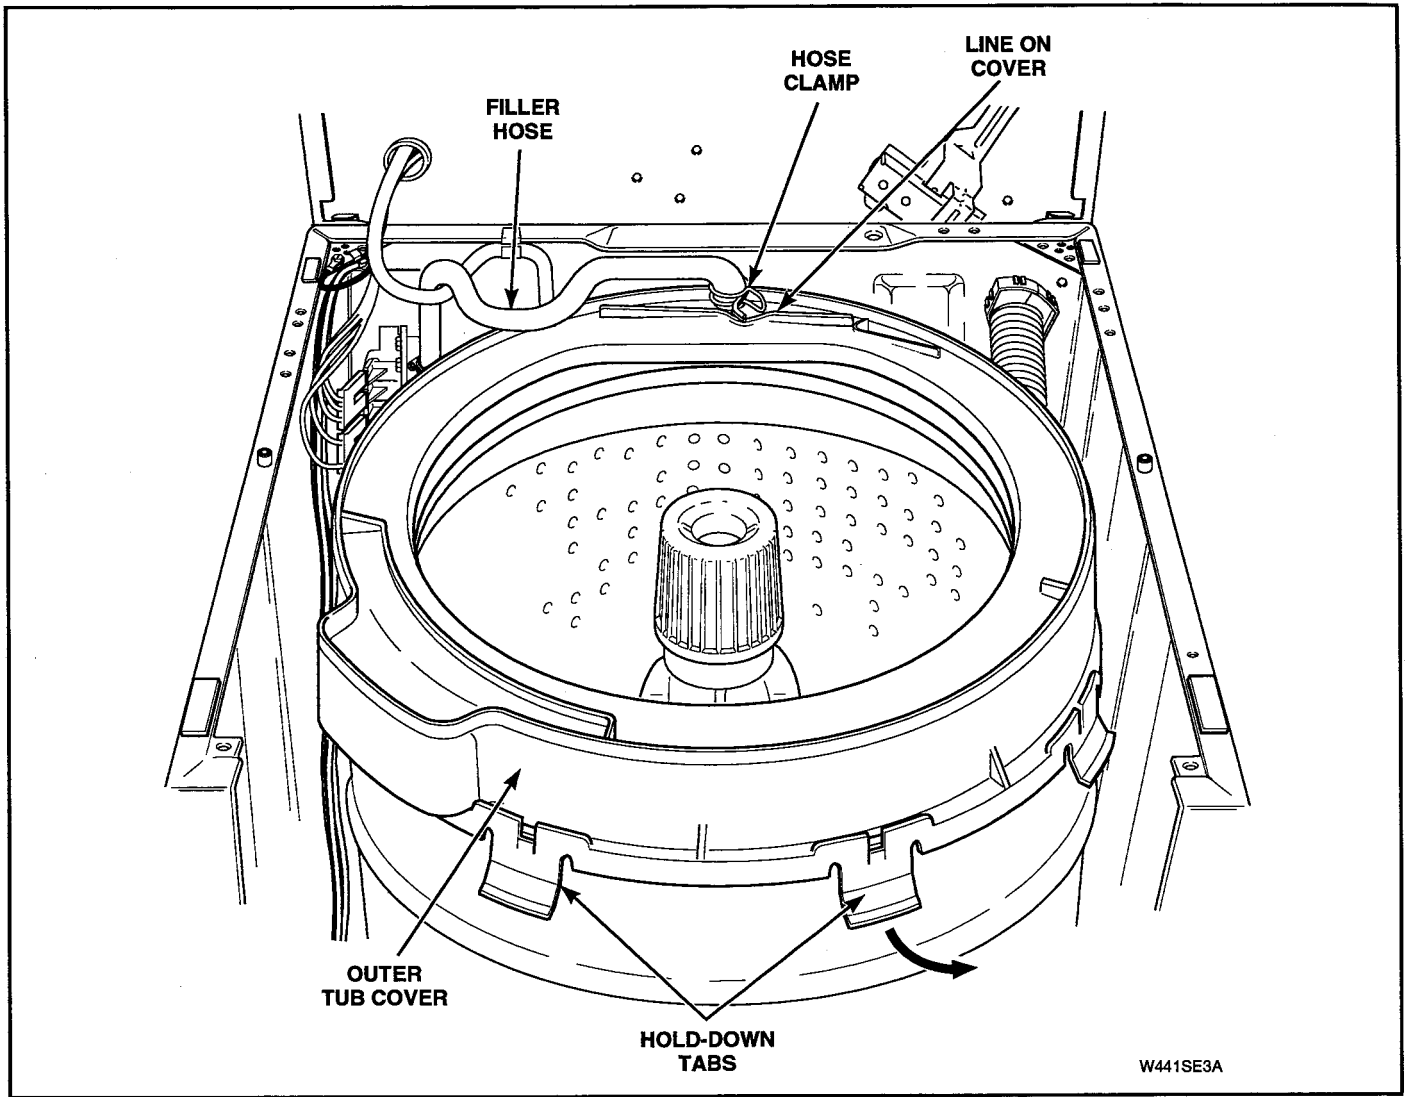

Figure 5-26
- Loosen hose clamp and remove filler hose from outer tub cover. See Figure 5-26.
**NOTE:** When installing filler hose, white line on hose must be aligned with line located on top side of outer tub cover. See Figure 5-26.
- h. Loosen hose clamp and remove filler hose from outer tub cover. See Figure 5-26.
**NOTE:** When reinstalling filler hose, white line on hose must be aligned with line located on top side of outer tub cover. See Figure 5-26.